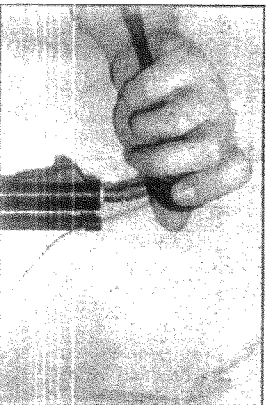

Figure 4
- c. Use short end of bullet starter to press bullet just into muzzle. (See Figure 4).